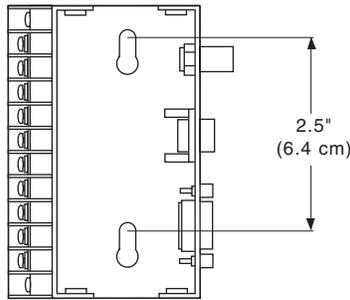

Figure 2. KBD4000V Interface Mounting Hole Dimensions
5. Attach the KBD4000V Interface to the wall with the screws that are provided (refer to Figure 2). The interface must be within 6 feet (1.8 m) of the keyboard and the nearest suitable electrical outlet. The interface cover can be removed for ease of mounting. Replace the cover when the mounting is complete.